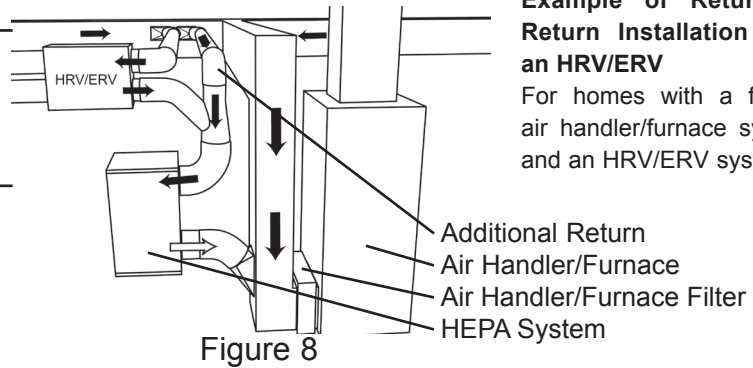

Figure 8
This application provides filtration of all Outdoor Air (OA) that is brought into the home through the HRV/ERV, thus reducing the introduction of dust, pollen and mold from the outdoor air. For systems that have HRV/ERV units installed, we recommend ducting the 'fresh air' outflow from the HRV/ERV into the HEPA system. If the HRV/ERV cfm (cubic feet per minute) rating is lower than that of the HEPA system, an additional return needs to be installed into the HEPA system (See figure 8.) The outflow air from the HEPA system then needs to be installed into the main return of the air handler/furnace system. Ensure that you follow the proper installation instructions as outlined in the HRV/ERV installation manual(s).